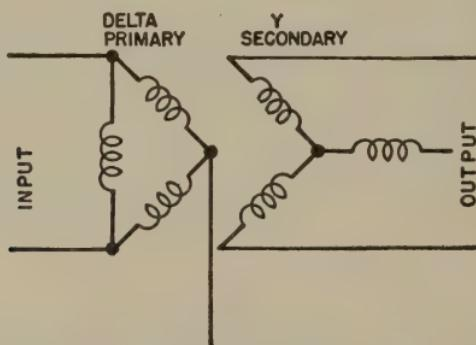

FIG. 4-2.—Delta-star or Y transformer.
*Ans.* Figure 4-2 illustrates a delta-Y-connected transformer.